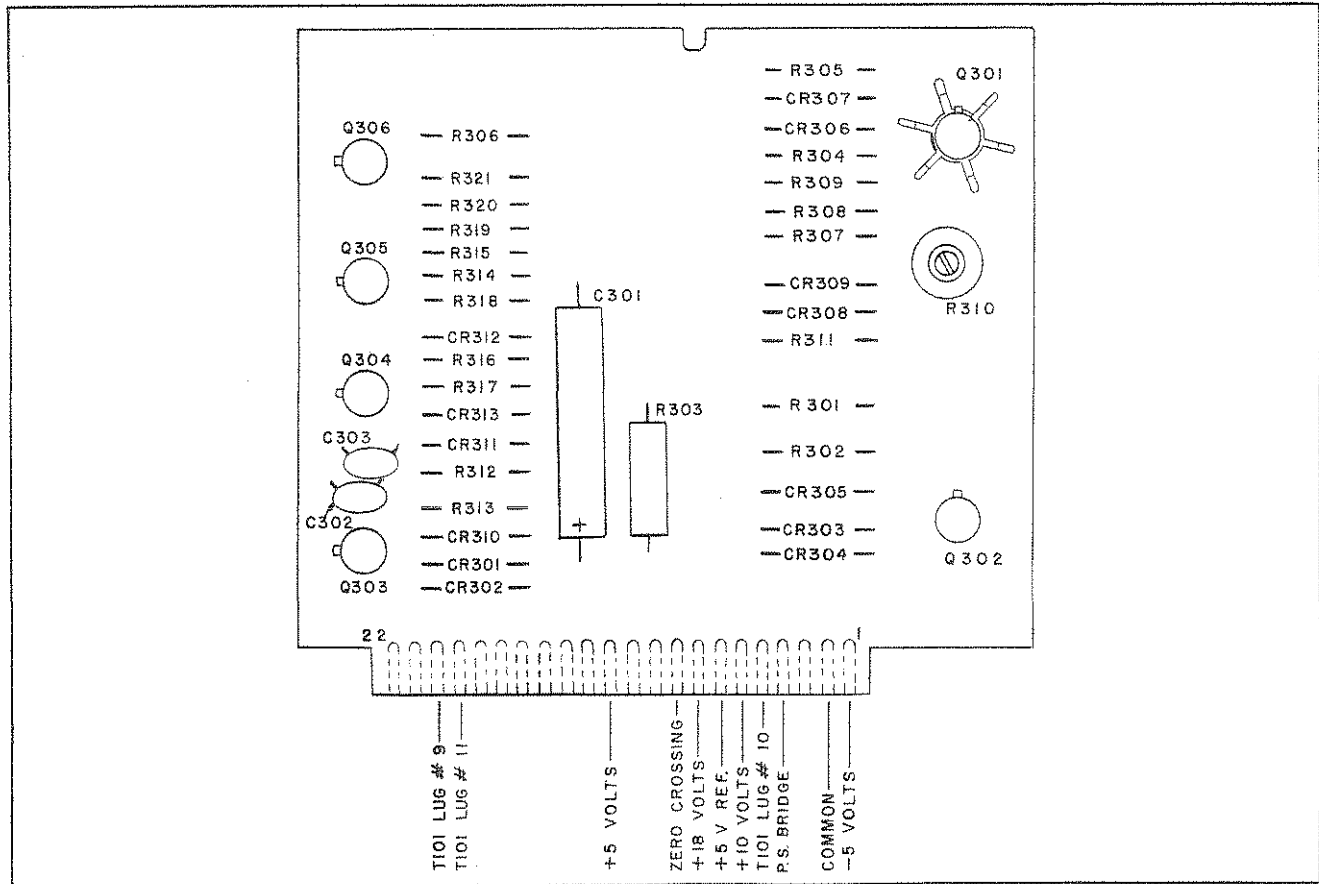

Figure 3-3. Component Locations: Power Supply Board
d. Connect General Purpose Charging Cables to two (2) channels and short the cable clips of each channel together.
i. Adjust the position of the shaft of potentiometer R310 on the Power Supply Board (see Figure 3-3) until the voltmeter indicates 5.014 volts.